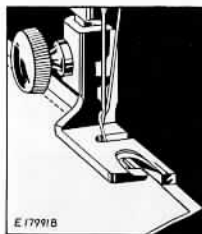

Fig. 43. Making a Felled Seam (First Operation)
1. Place right sides of material together, having edge of upper piece about $\frac{1}{8}$ inch to the left of edge of under piece. Stitch the two pieces together, using hemmer as a presser foot. Guide both pieces by the projecting toe of hemmer, as shown in Fig. 43.